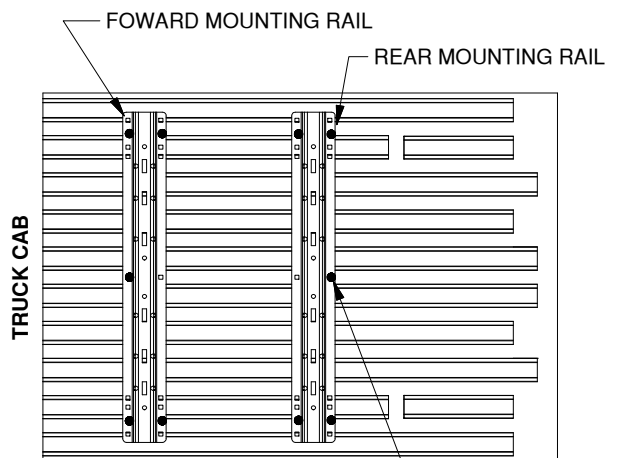

Figure B2: View over bed, showing drill locations for the bed rails.
2. **Mark hole locations.** While carefully ensuring the mounting rail does not move, use a center punch tool to mark the 5 drill locations on the rear rail. See Figure B2 for hole marking locations for this installation (forward rails will install in a later step). Once all 5 rear rail locations are clearly marked, move the bed rail out of the way and drill each location with an 1/8" drill bit.
- 2. Drill forward mounting holes.** Using the same methods as used for the rear mounting rail mark, drill, check, and enlarge the holes for the forward mounting rail. Refer to "DRILL REAR MOUNTING HOLES" section, Steps 1 through 4, on previous pages. Notice that the hole locations are slightly different than the rear rail, see Figure B2 (on page 2).